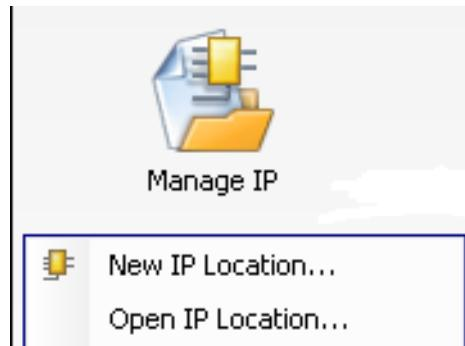

Figure 3-1: Invoking the Manage IP Flow
1. Invoke the Vivado IDE, and from the **Getting Started** page, select **Manage IP** (Figure 3-1).